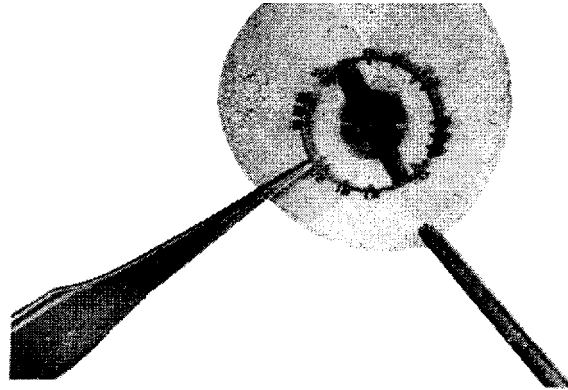

FIG. 10-12
2. Rinse in solutions #2, #3, #4, #5, #6 and #7 for approximately five seconds for each solution. Figure 10-12 illustrates the method used in removing the surplus solution from the balance wheel and hairspring with the blower. Hold the balance above a piece of pithwood. The upper balance pivot should be touching the pithwood. Carefully blow through the